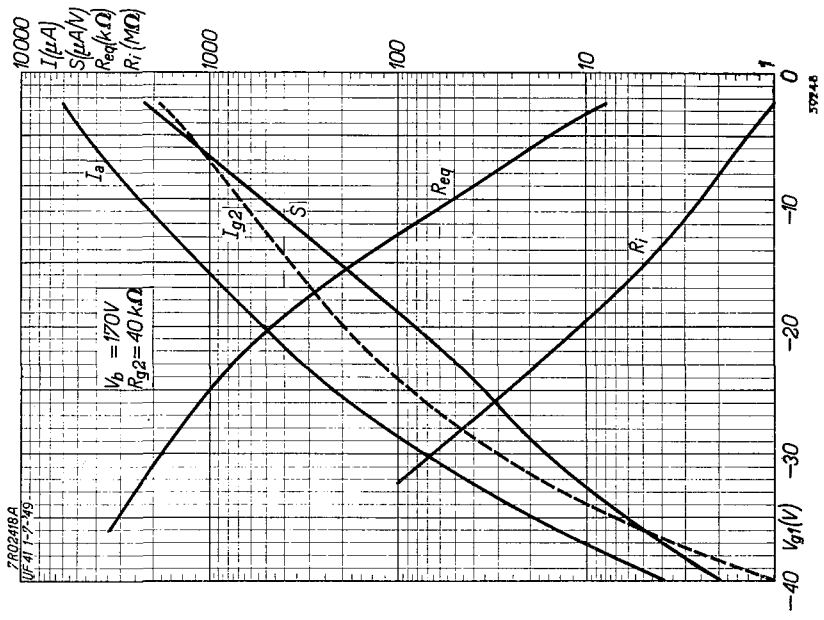
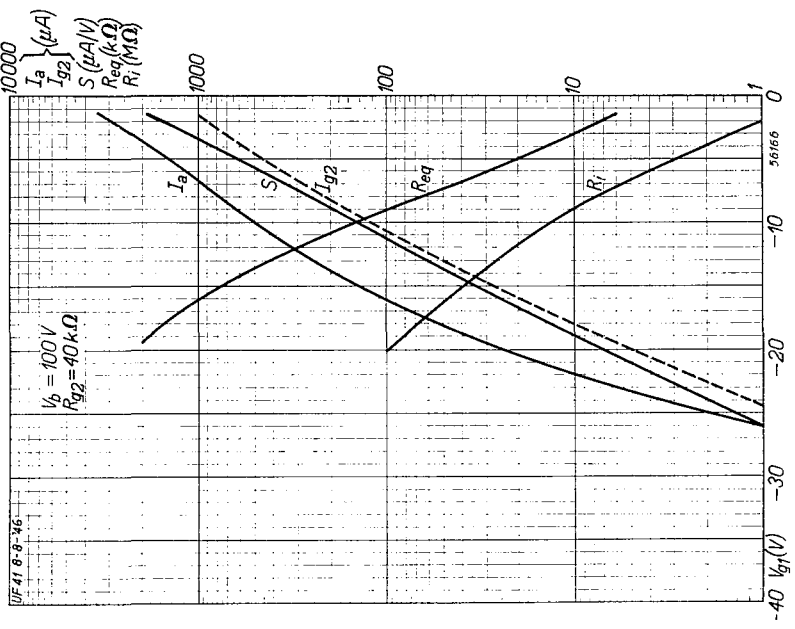

Fig. 7
Fig. 6
Operating characteristics of the UF 41 used as R.F. or I.F. amplifier (see Figs. 6 and 7)
Anode current (I_a), screen grid current (I_{g2}), mutual conductance (S), internal resistance (R_i) and equivalent noise resistance (R_{eq}) as functions of the grid bias (V_{g1}); screen grid series resistor $R_{g2} = 40 k\Omega$, supply voltage $V_b = 100 V$ (Fig. 6) and $170 V$ (Fig. 7).